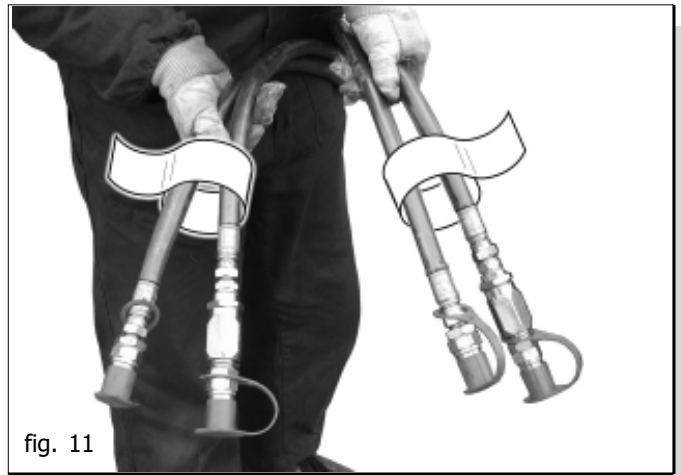

fig. 11
- 4) The hydraulic pipes must be connected correctly to the tractor distributors (see chapter 3.1) following the instructions on each pipe (Fig. 11).